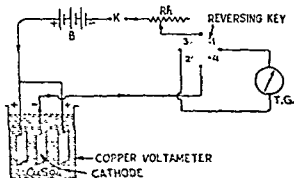

Fig. 18-1
1. Make the connections as shown in the figure 18-1. See that you have connected the tangent galvanometer between the opposite terminals of the reversing key and NOT between the
neighbouring terminals. In case of these connections made between the neighbouring terminals, the current through the tangent galvanometer will NOT get reversed when subsequently desired to do so. Between the other pair of opposite terminals the reversing key, an electrical circuit is developed through a voltmeter as shown in the figure 18-1.